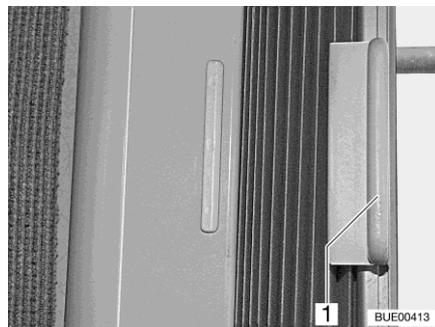

Fig. 30 Roman shade (side window)
- Opening and closing: ■ Grasp the handle (Fig. 30,1) of the Roman shade and slide to the left or the right.